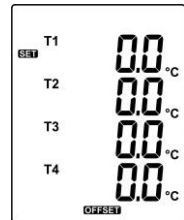

Fig.10
- (1) Press the  or  button to select thermocouple channel. (see Fig.10)